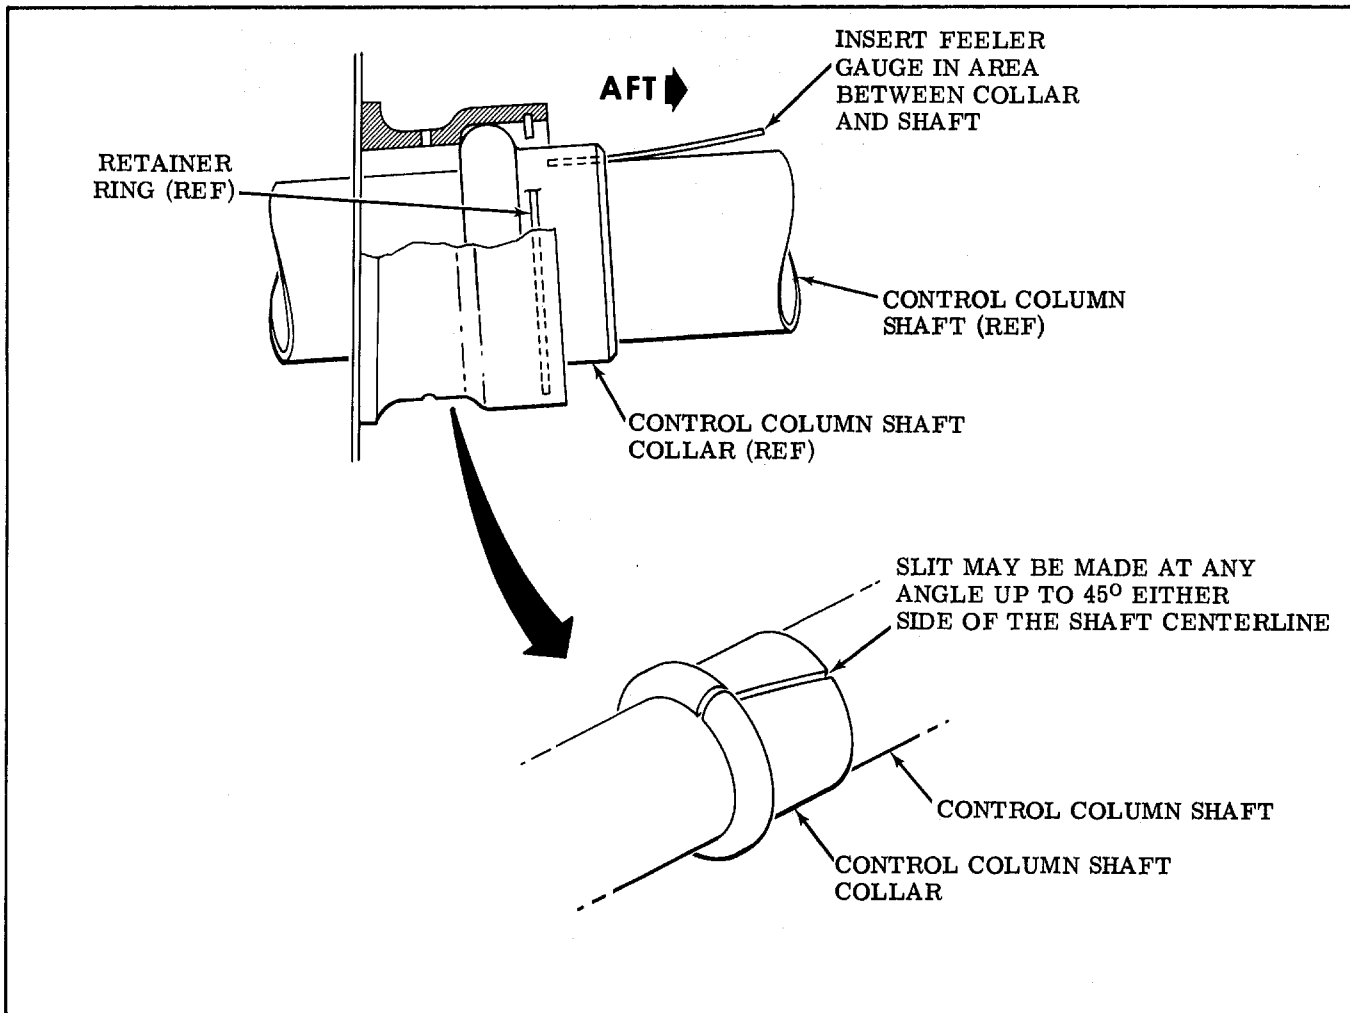

Figure 1.
- a. Remove retaining ring from control column shaft (see Figure 1.).
- d. Cut a slit in collar with a hacksaw blade or equivalent cutting tool. Maximum width of cut to be 0.050-inch (see Figure 1.).